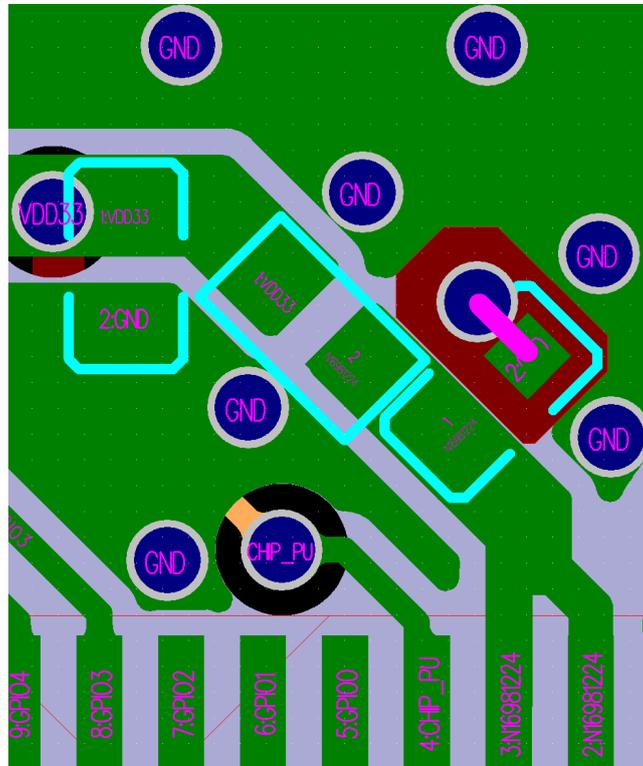

Figure 16: ESP32-S3 Analog Power Traces in a Four-layer PCB Design
- As shown in Figure 16, it is recommended to connect the capacitor to ground in the LC filter circuit near VDD3P3 pins to the fourth layer through a via, and maintain a keep-out area on other layers.
If you need to add a thermal pad EPAD under the chip on the bottom of the module, it is recommended to employ a nine-grid on the EPAD, cover the gaps with ink, and place ground vias in the gaps, as shown in Figure 16. This can avoid tin leakage when soldering the module EPAD to the substrate.